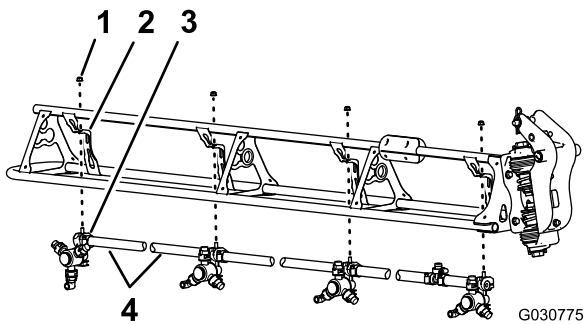

Figure 132
1. Cut the hose between 2 sprayer nozzles (Figure 132).
2. Remove the flange locknut (5/16 inch) that secures the sprayer nozzle to the nozzle support (Figure 132).